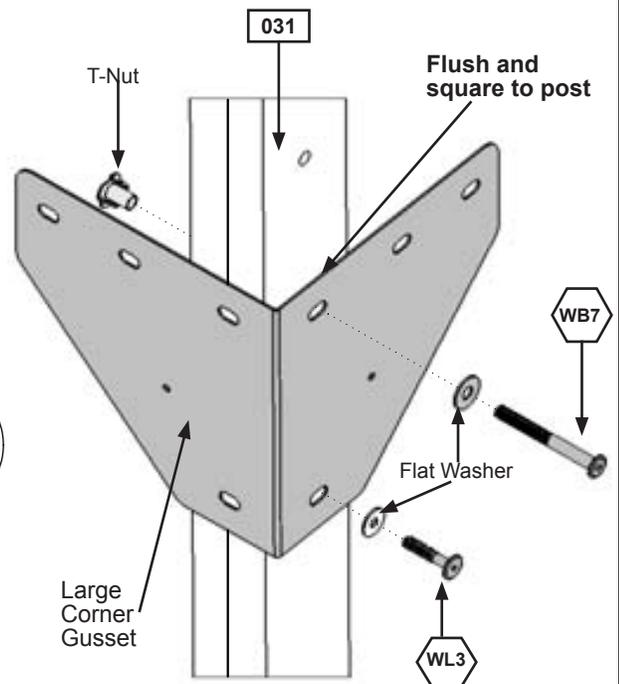

Fig. 3.2
A: Attach 1 Large Corner Gusset to each of the (031) Post Short on the short side using 1 (WB7) 5/16 x 3" Wafer Bolt (with flat washer and t-nut) in the top hole and 1 (WL3) 1/4 x 1-3/8" Wafer Lag (with flat washer) in the bottom hole. Make sure Large Corner Gusset is tight and square to the Posts. (fig. 3.2)